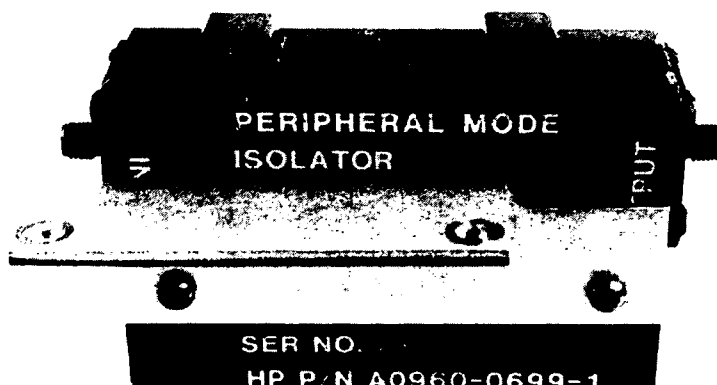

Figure 1. Isolator and Isolator Bracket Assembly
7. Connect the isolator support bracket (HP 08970-00077 provided in the kit) to the isolator as shown in Figure 1 of this note using 2 of the 3 screws which held the old isolator to the old A11/AT1 Bracket.
8. Attach rubber bumpers (HP 0403-0275) to the isolator as shown in Figure 1.